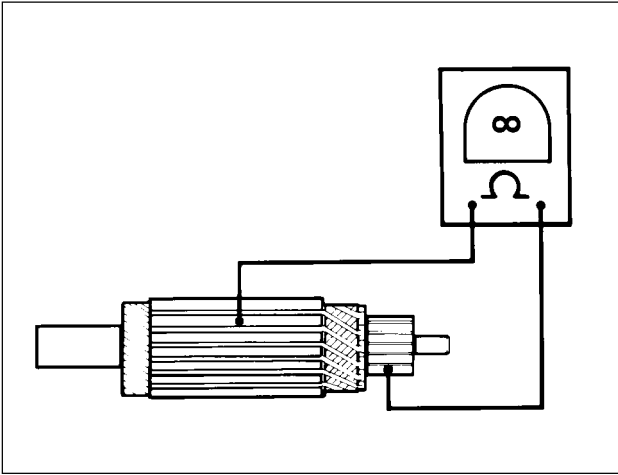

Figure 5-12. Grounded Armature Test
11. See Figure 5-12. Check for a GROUND^{ED} ARMATURE with an ohmmeter or continuity tester. Touch one probe to any commutator segment, and the other probe to the armature core. There should be no continuity (infinite ohms). If there is any continuity the armature is grounded and should be replaced.